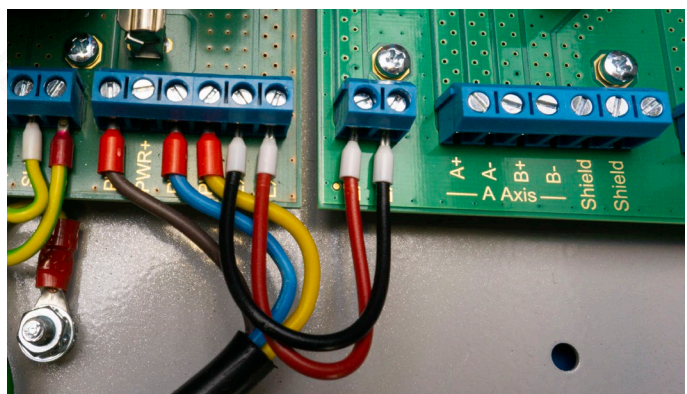

Fig. 37: Cable bridges on EXT +/- for power supply
- Connect the EXT +/- terminals of the C3 Drive-Module and C3 Drive-Module Extension with the enclosed cable bridges (Fig. 37).